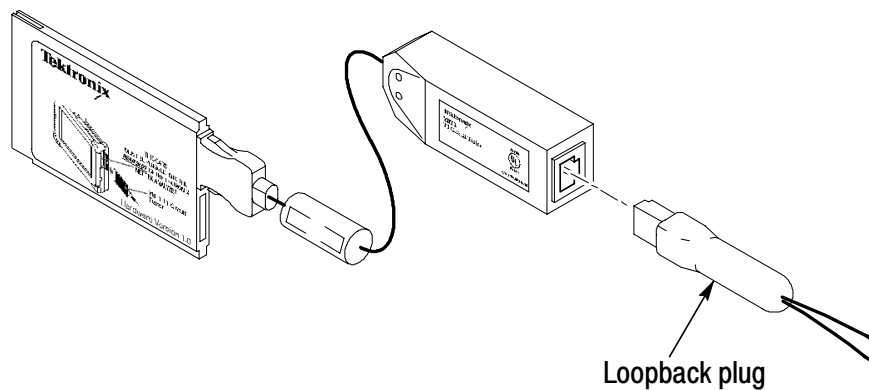

Figure 1-14: Inserting the Loopback Plug into the T1E1 Line Interface
1. Insert the RJ48 Loopback Plug into the YBT1E1 Line Interface as shown in Figure 1-14.